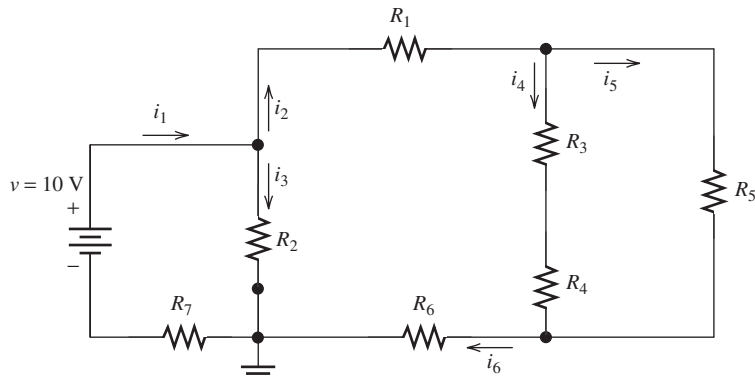

FIGURE P2.69 Circuit diagram for Problem 2.69.
2.69 (H) Given the circuit shown in Figure P2.69, assume a 10 V voltage source. Find the values of the resistor R_6 and the current i_5 , assuming: $i_2 = 1$ A, $R_1 = R_5 = 2$ Ω , $R_2 = 4$ Ω , $R_3 = R_4 = 1$ Ω , $R_7 = 3$ Ω . Verify the answer through PSpice software using the value of R_6 obtained from calculation.